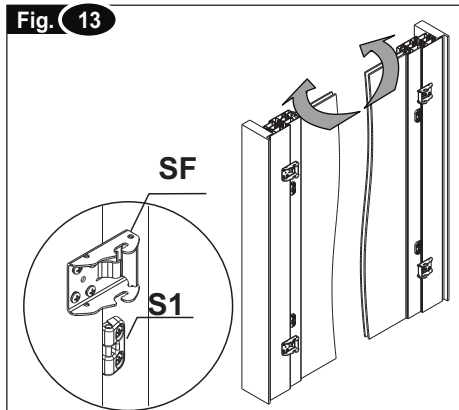

Fig. 14
- 7) **Fig. 14** - Insert the two pairs of clamps "M1", fitting them in the actuator slider adjacent to the chain terminal, then close them partially with the screw and nut in the package;
- 8) **Fig.14** - Position the clamps 80mm on either side of the chain terminal midline and tighten the screw all the way;